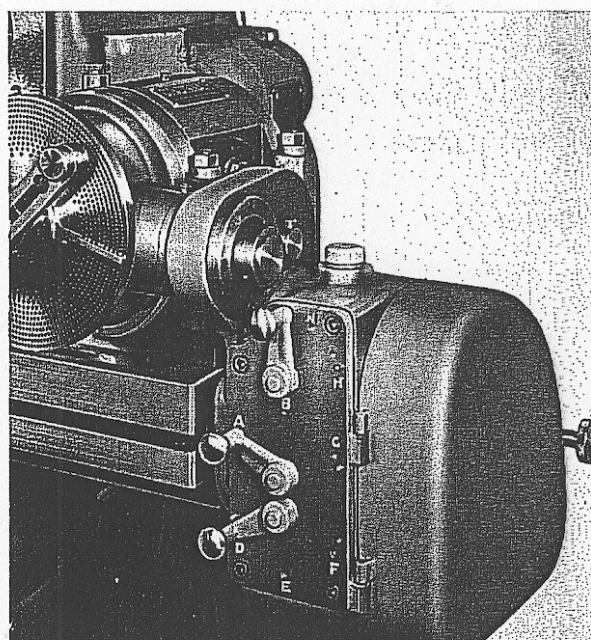

Figure 59B
**Short and Long Lead Attachment.** May be obtained at extra cost for all CINCINNATI Universal General Purpose Milling Machines (Figure 59B). Complimentary parts must be built into the machine at the factory. It has a standard range of .010" to 1000" or (on demand) .025" to 3000", with no more than the usual number of change gears. Complete instructions are contained in a separate booklet, "Short and Long Lead Attachment-Table of Leads for CINCINNATI Universal Milling Machines," a copy of which accompanies each machine equipped with this attachment.